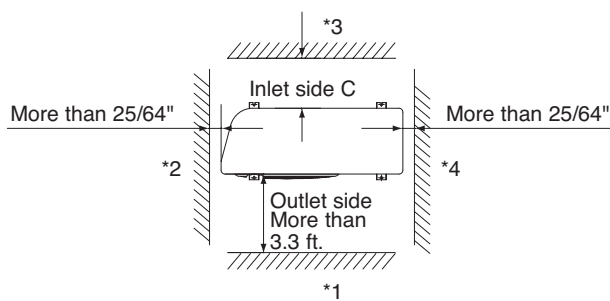
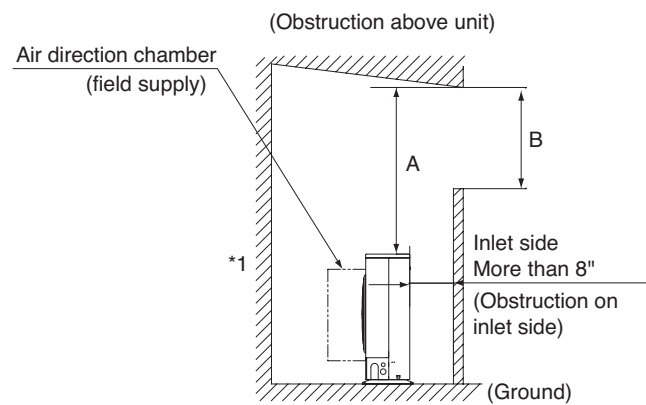

Fig. 2-2
Fig. 2-3
- allow enough room around the unit for air intake/exhaust and possible maintenance. (Fig. 2-2)
- Concerning inlet-side distance "C" (Fig. 2-2) The minimum for distance "C" is 6" if there are no obstructions on the outlet side (wall *1 side) and *2 or *4 is not present. In all other cases, the minimum for distance "C" is 8".
- If wall *1 is on the outlet side (Fig. 2-2), or if obstructions are present on all 3 sides *2, *3, and *4 (Fig. 2-2), then the minimum distance for "A" and "B" is 80" (Fig. 2-3). Even if there is no wall on the outlet side, a minimum of 3.3 ft. is required.